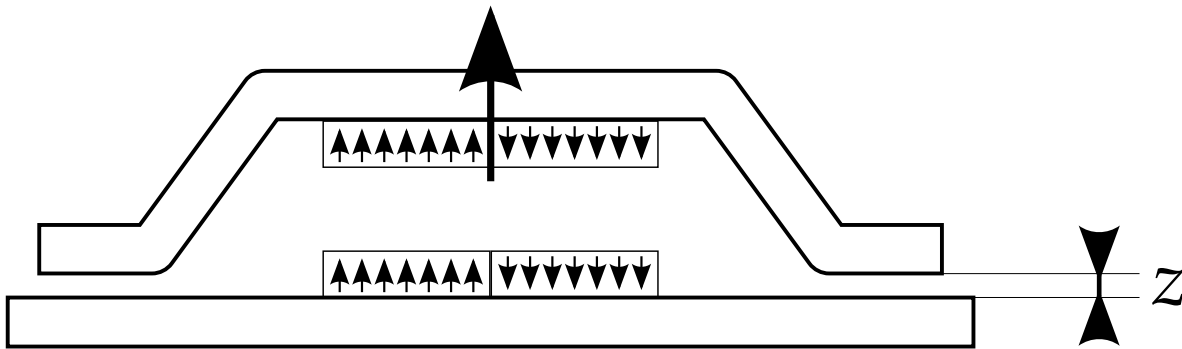

Figure 7: Removing one of the magnet assemblies.
When you try to remove the upper 2 magnets and the top of the core from the magnetic system (this motion is indicated by the large arrow in Figure 7) you notice that you need a large force for that. We will compute the 'sticktion force' of this magnet configuration. Note that the coil can be entirely left out for now, as we are interested in the force due to the permanent magnets only.
We will assume that all flux flows through the dominant flux path discussed in Question 5b; however, the size of the airgap increases with displacement z , as is indicated in Figure 7. Note that there are permanent magnets and there is no current carrying coil in this magnetic circuit. Therefore, the most straightforward method to compute the ‘sticktion force’ is using the spatial derivative of the magnetic energy in the system. In this case the magnetic force is given by:³
- (7p) **5e.** Use the the stored magnetic energy in the system as a function of distance z (indicated in Figure 7) to derive an expression for the force in z -direction as a function of z , and compute the force at distance $z = 0$.